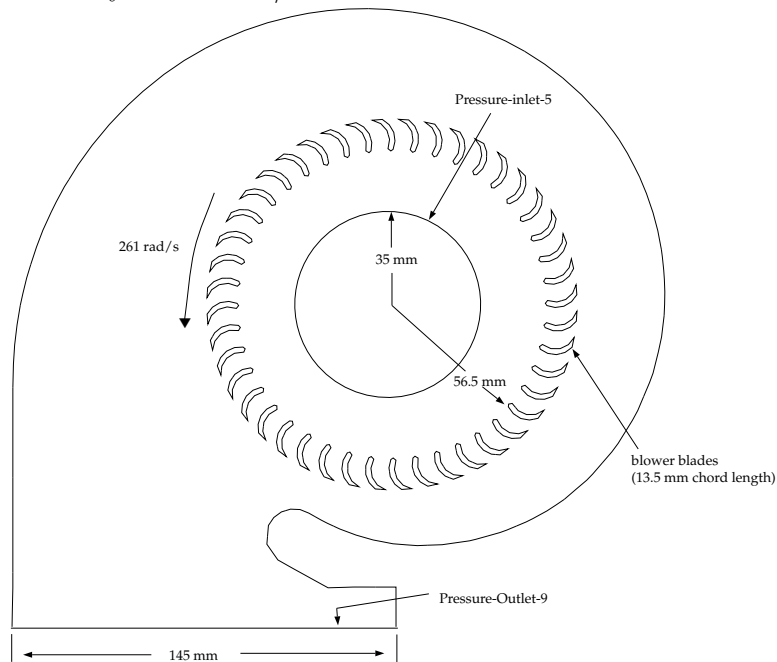

Figure 9.1: Schematic of the Problem
This problem considers a 2D section of a generic centrifugal blower. A schematic of the problem is shown in Figure 9.1. The blower consists of 32 blades, each with a chord length of 13.5 mm. The blades are located approximately 56.5 mm (measured from the leading edge) from the center of rotation. The radius of the outer wall varies logarithmically from 80 mm to 146.5 mm. The total pressure at the inlet is defined to be 200 Pa and the flow discharges to ambient conditions (static pressure = 0 Pa). The blades are rotating with an angular velocity of 261 rad/s. The flow is assumed to be turbulent.
5. Set the boundary conditions (see Figure 9.1) for the flow inlet (pressure-inlet-5).